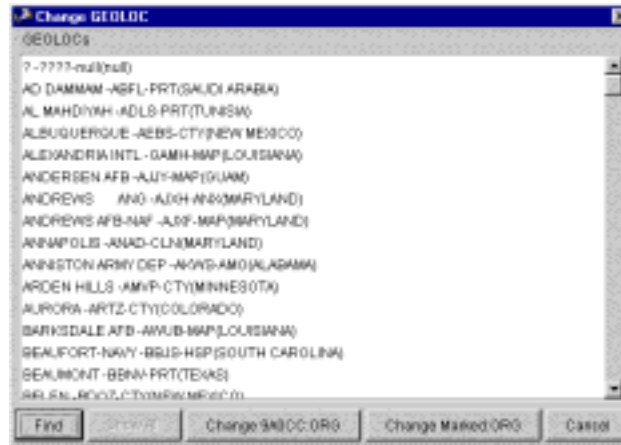

Figure 5.56 Change GEOLOC Window
6. Click Change GEOLOC. The menu of lozenge commands closes, and the Change GEOLOC window opens (Figure 5.56).